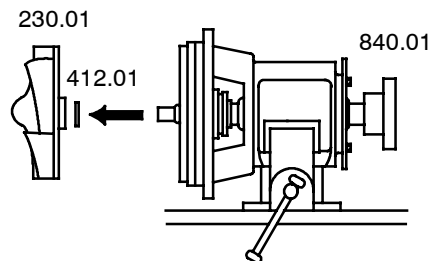

Fig. 3
- 1 Fasten the exchange unit firmly to a vice. Fig. 3.